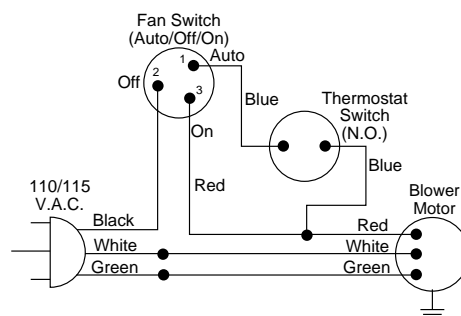

Figure 24 - Wiring Diagram For Blower Accessory Standard Installation
4. Carefully disconnect green and white wires at their insulated connectors (see Figure 24).